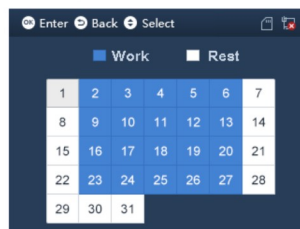

Figure 2-15
Select monthly, click ③. See Figure 2-15.